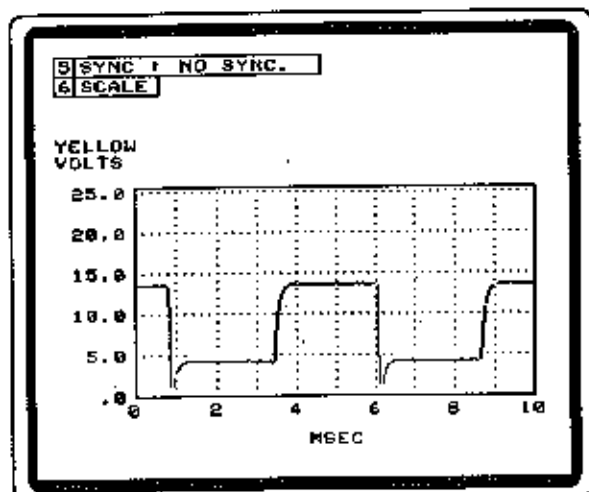

Figure 69
5. A pattern appears on screen when the yellow clip is connected to a circuit in which the voltage is changing (see Figure 69).